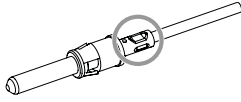
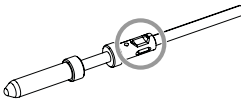

Fig. 11: Pilot contacts
Fig. 13: Auxiliary contacts
3. Crimp contact and cable (if necessary including the reducing bushing) using the crimping tool (see section "4. Tools"), as shown in *Fig. 11* or *Fig. 13*.